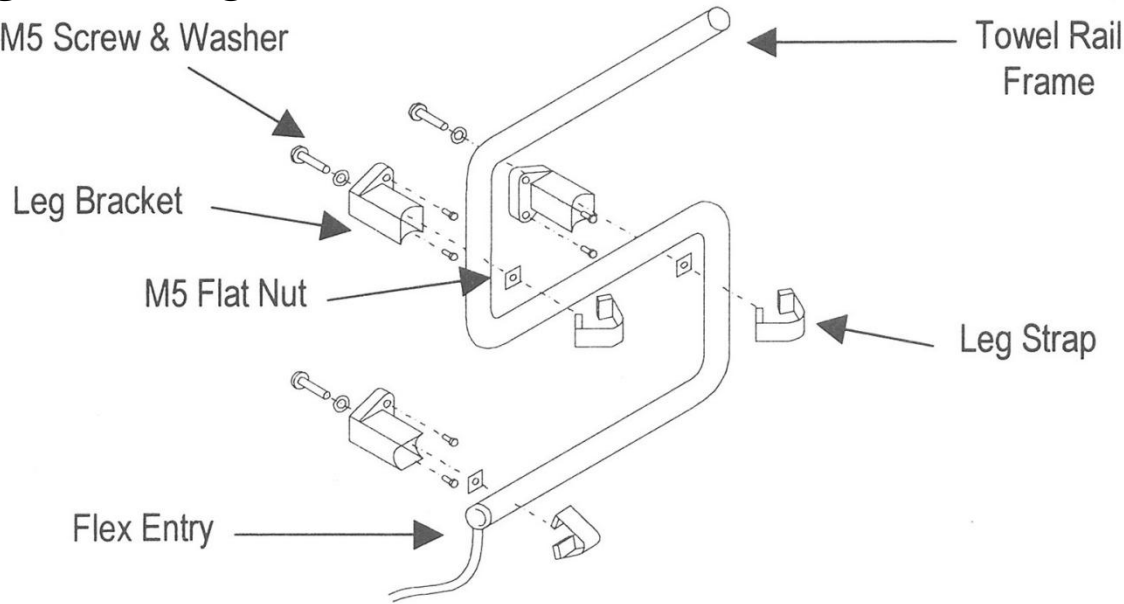

Figure 1 – Wall Mounted Towel Rail
- ♦ Fit the leg brackets and straps loosely to the frame, in the positions shown in figure 1.